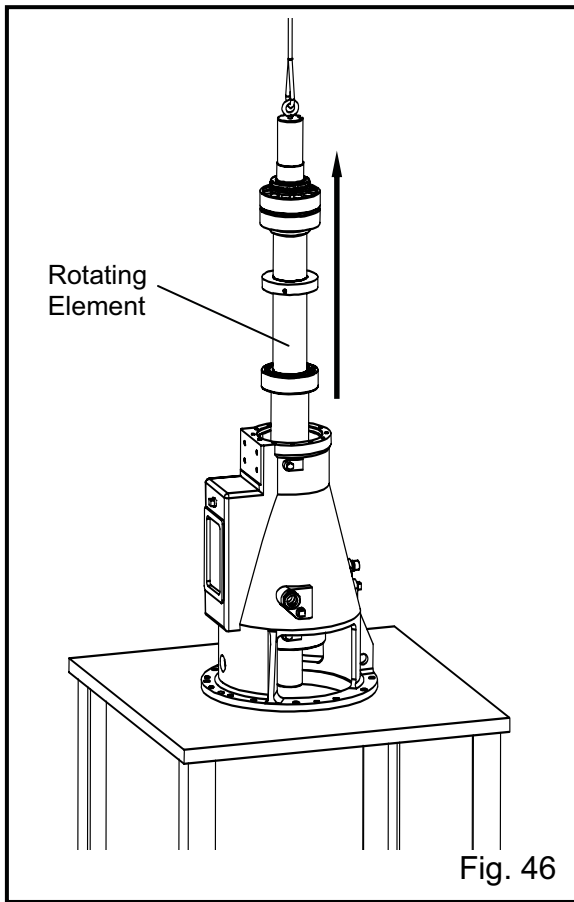

Fig. 46
23. Using the eye bolt already threaded into the shaft, pull the rotating assembly from the bearing housing, see Fig. 46. Once the rotating assembly has been removed place it on a set of wooden V-blocks for bearing removal, see Fig.'s 47 and 48.